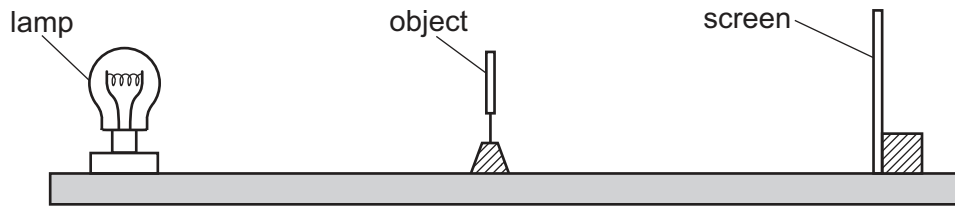

Fig. 3.3
- 2 The apparatus must be set up for candidates as shown in Fig. 3.3. The lamp and screen should be aligned, but the distance between them is immaterial.